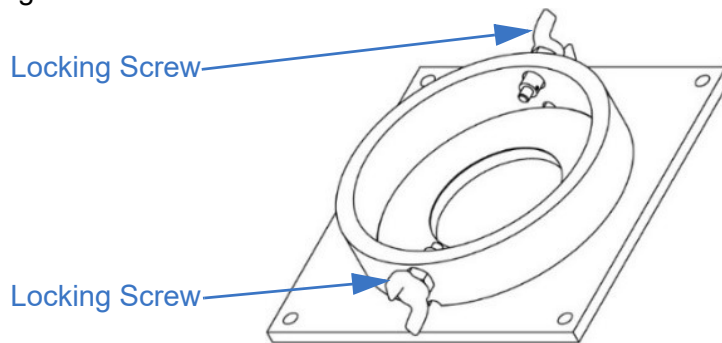

Figure 6-6 Locking Screws (P/N: 5074601 Shown)
- a. Loosen the locking screws (Figure 6-6) on the base plate approximately one turn.